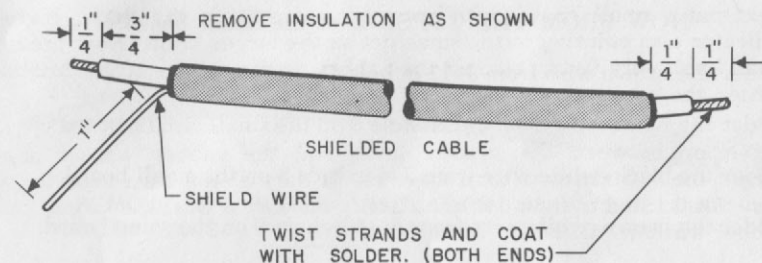

FIGURE 13. PREPARATION OF SECOND GROUP OF SHIELDED CABLES
- ✓ Prepare the remaining 10" and the single 8" length of shielded cable as shown in Figure 13.